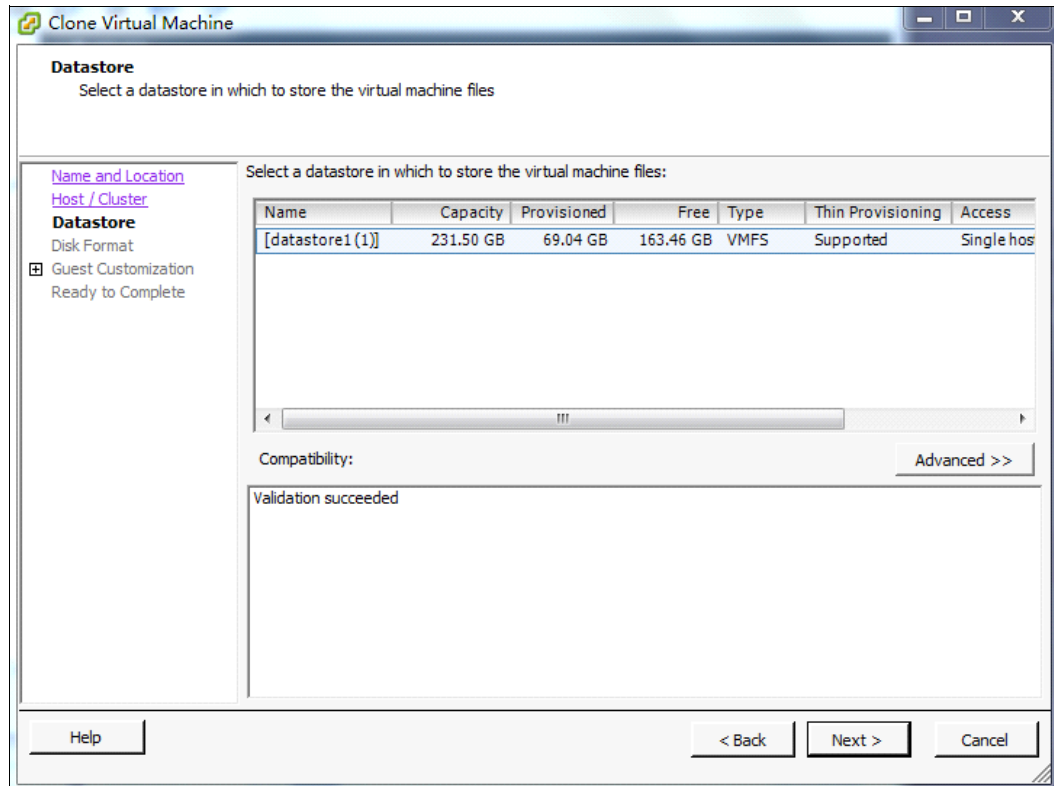

Figure 3-57 Clone Virtual Machine wizard: Datastore
4. Select the data store for the new virtual machine, as shown in Figure 3-57.